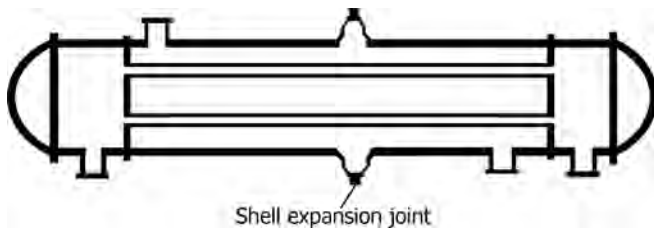

FIGURE 10.12 Illustration showing shell expansion joint.
- Shell is designed and fabricated with an expansion joint (Figure 10.12).